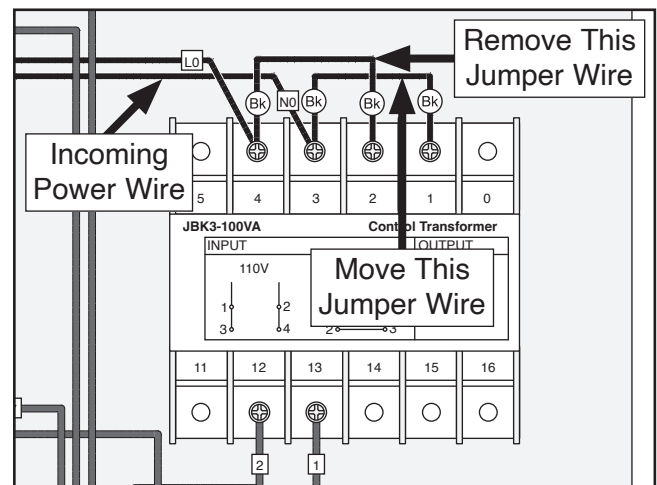

Figure 8. Transformer pre-wired for 110V.
4. Remove jumper wire from transformer terminals 2 and 4 (see **Figure 8**).
5. Move jumper wire from terminal 1 to terminal 2 (see **Figures 8–9**).
6. Move incoming power wire (N0) from terminal 3 to terminal 1 (see **Figures 8–9**).